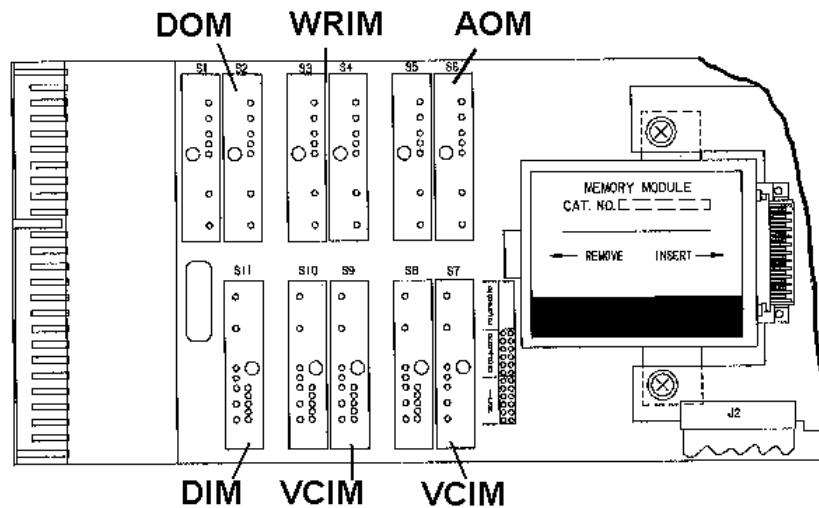

Figure 2-1. Example of an I/O Planning Form for a Controller with I/O Modules
- The layout of module locations on the carrier board, Figure 2-1, divides locations 1 through 10 into pairs allowing double wide modules to occupy only five different locations.